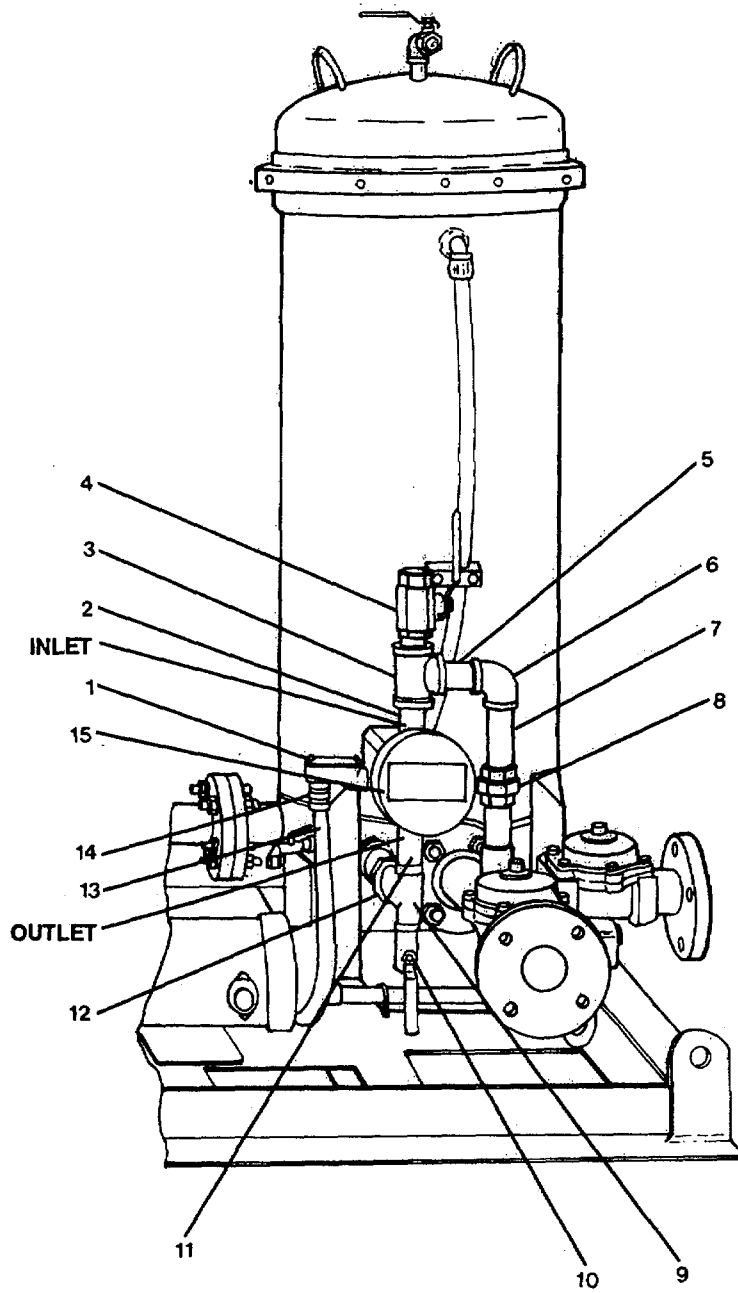

FIGURE 3-30. Sensing Module Assembly.
**3-33. Replace Sensing Module Assembly. (Figure 3-30)**